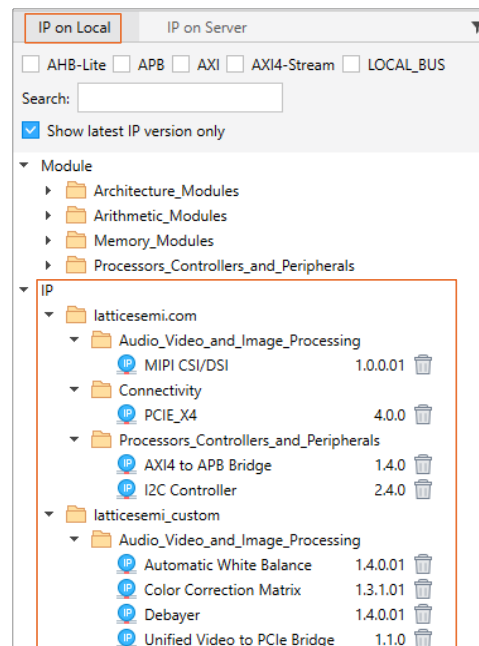

Figure 5.1. IP on Local Tab in IP Catalog
3. Before reconfiguring the IP, ensure that the IP is downloaded and installed under **IP on Local** as shown in Figure 5.1. In this reference design, install a few IPKs into **IP on Local** as follows: